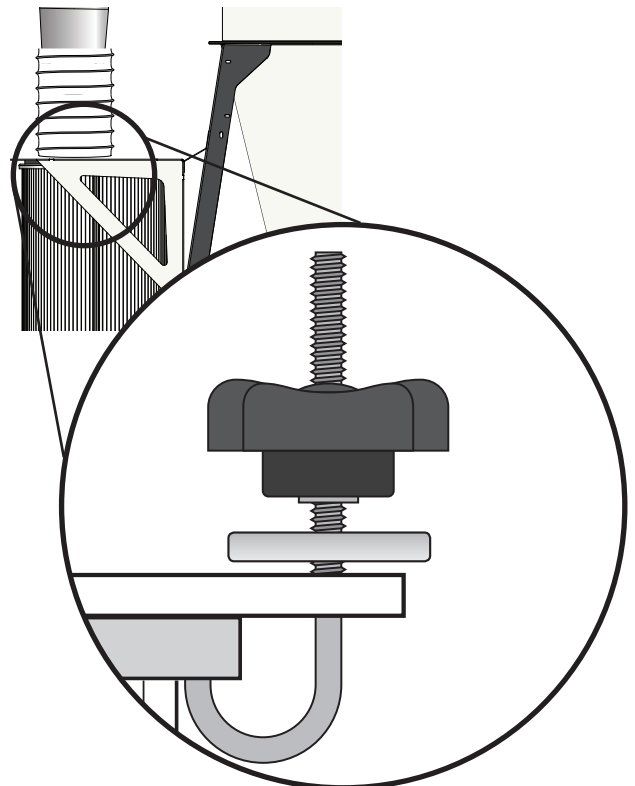

FIG. 12
- 12** Attach each Filter (N) to the Dual Filter Plate (L) with four J-Bolts (M4), four Flat Washers (M3) and four Thumb Nuts (M2) as shown in [FIG. 12].